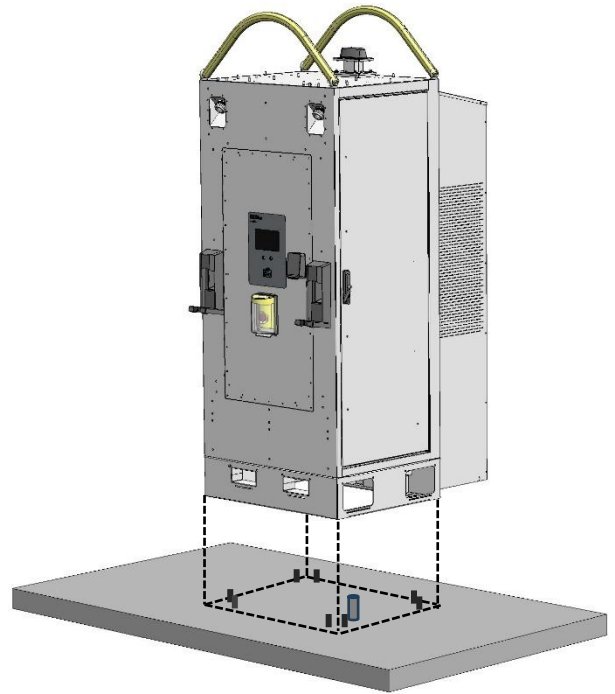

Figure 19 - Lower Fast Charger onto eight pre-installed wedge anchors
11. Lower the charger onto the pre-marked outer footprint on the concrete and over the power-in cable/conduit (like Figure 19, but without wedge anchors pre-installed).
15. Remove washer and nut from wedge anchors and then hammer all 8 wedge anchors 2.75 inches into pre-drilled holes (anchors shown installed in Figure 19).
16. With washers and nuts still removed from installed wedge anchors, safely lower the charger over the installed wedge anchors and conduit/cable in concrete (Figure 19) so that all 8 anchors feed into their own window.